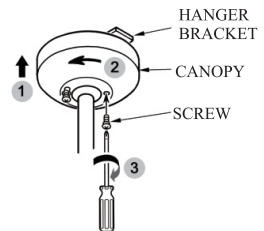

FIG.8
4. Mount the canopy on the hanger bracket and tighten the screws. (see Fig.8)